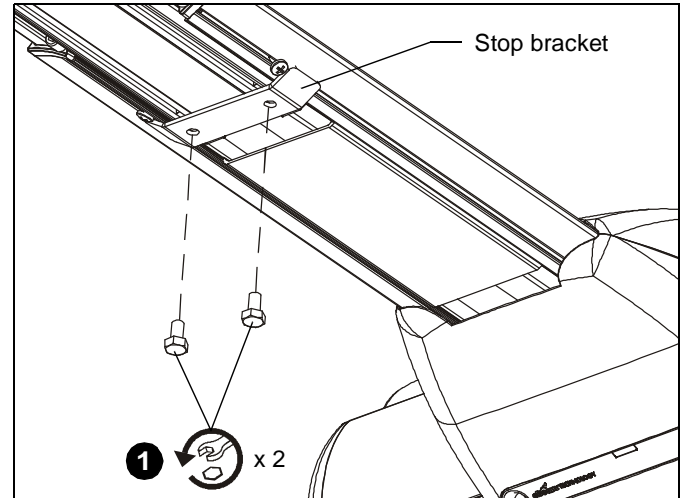

Figure 70
1. Remove two bolts holding stop bracket in place on underside of short throw projector mount. (See Figure 70)